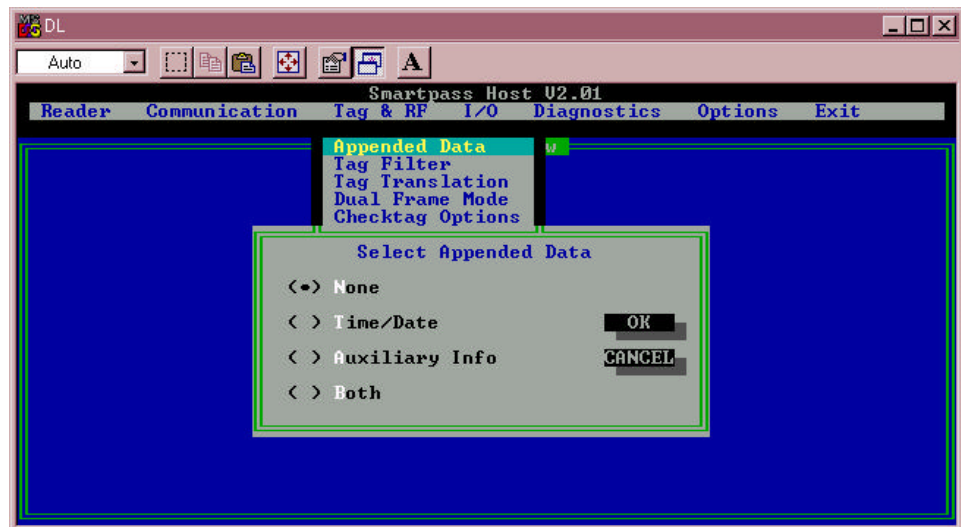

Figure 4-9 Select Appended Data Dialog Box
1. Select the **Tag & RF** drop-down menu and click on **Appended Data**. Figure 4-9 illustrates the options for appending information to tag data.